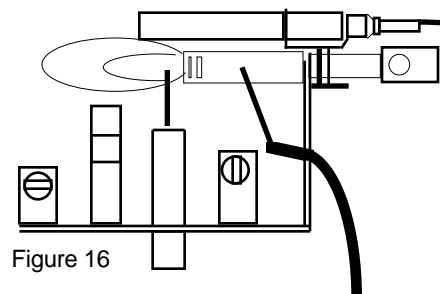

Figure 16
1. **PILOT FLAME:** Pilot flame should be steady and soft blue extending approx 1 inch beyond the pilot tube as shown in Figure 16.